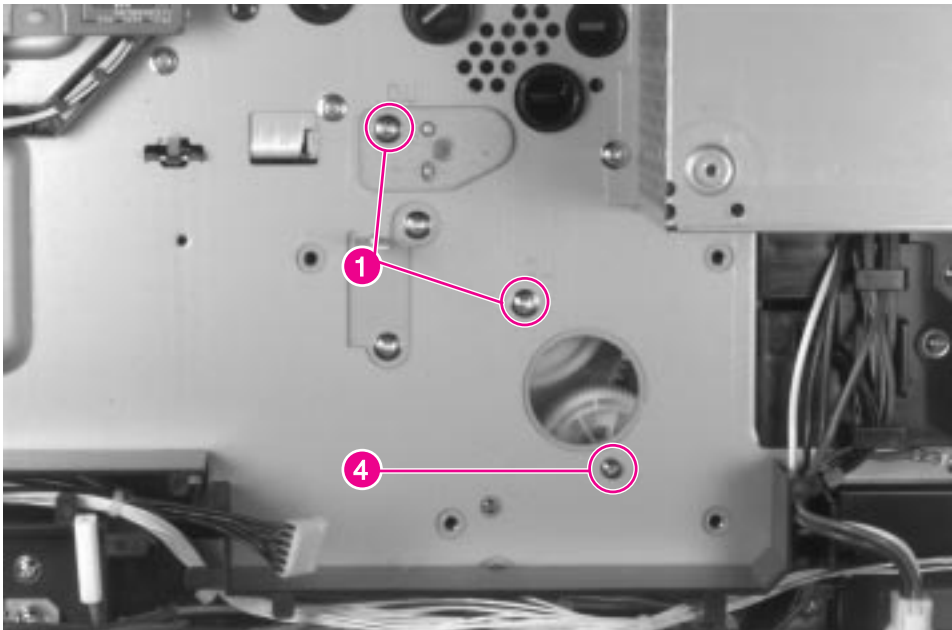

Figure 6-28 Main Gear Assembly (1 of 3)
- 2 Remove 2 screws (figure 6-28 on page 191, callout 1).
- 4 Make sure that the locating pins are properly aligned and that the gear assembly fits tightly against the chassis before replacing the screws (figure 6-28, callout 4).